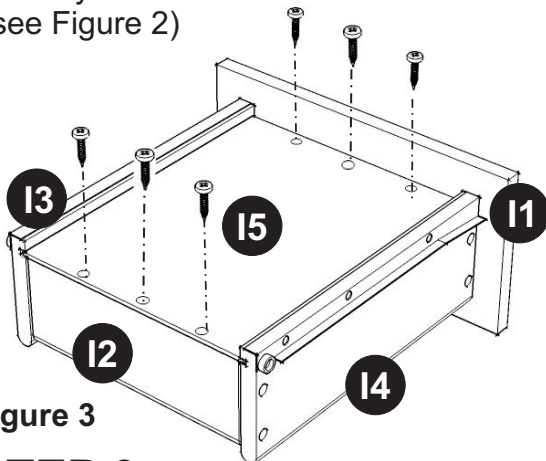

Figure 3
Attach Door (K) to unit. (see Figure 3)
(Figure 3)
Insert short wood screws (6X) into the pre-drilled holes in I5, tighten screws. (see Figure 3)